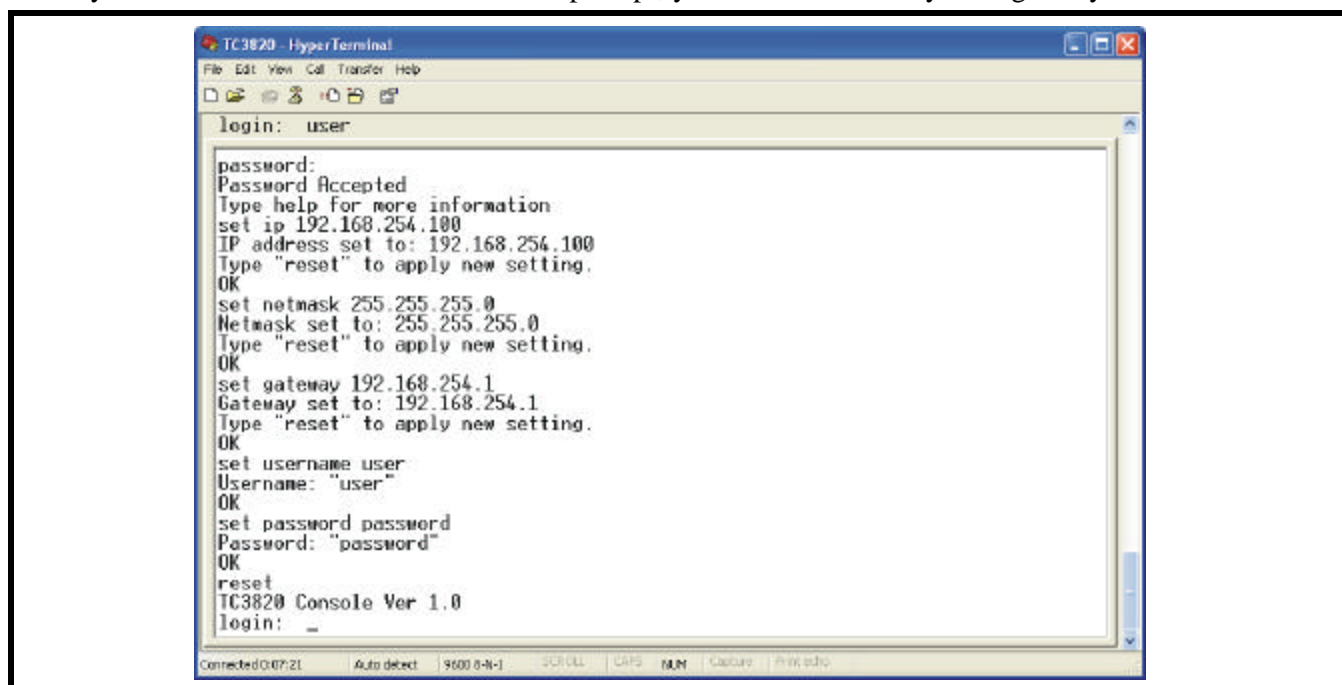

Figure 18. TC3820's Console Settings
9. At this point, you can continue to enter all the settings, as shown on Figure 18 below.